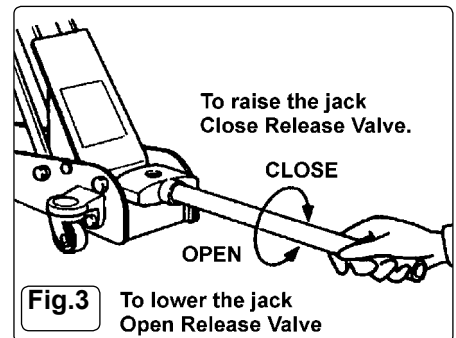

Fig.3
- 6.1.3. Turn the release valve clockwise, to the closed position (Fig.3). **DO NOT** over-tighten.